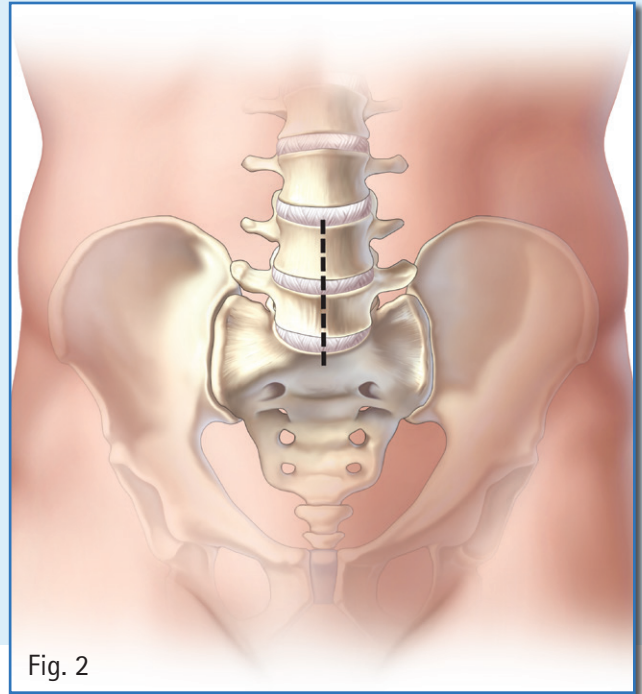

Fig. 2
- Provide the level of exposure to the implantation site that the surgeon deems necessary to perform the surgery (Fig. 2).